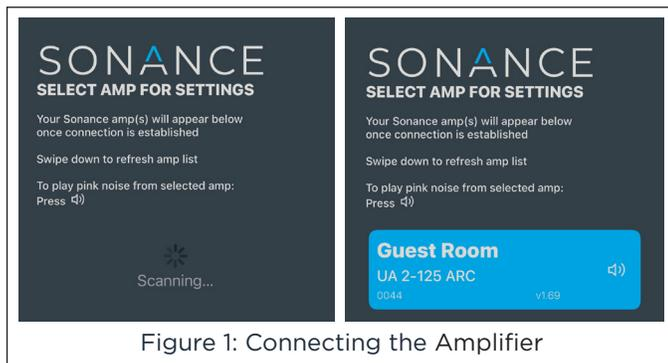

Figure 1: Connecting the Amplifier
- When multiple amplifiers are displayed on the page, pressing the sound icon in the blue amp tile will trigger the amplifier to send pink noise signal to the speakers to help identify (see Figure 1).